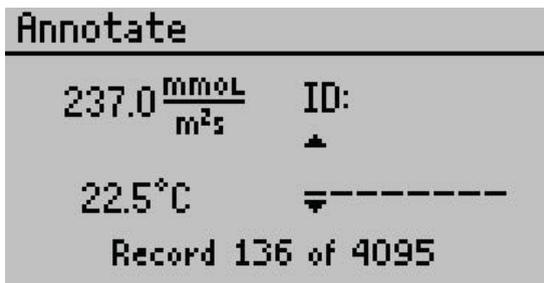

Figure 15 Annotate screen
- c. Annotate will bring up the Annotate screen to give the data a file name (Figure 15).